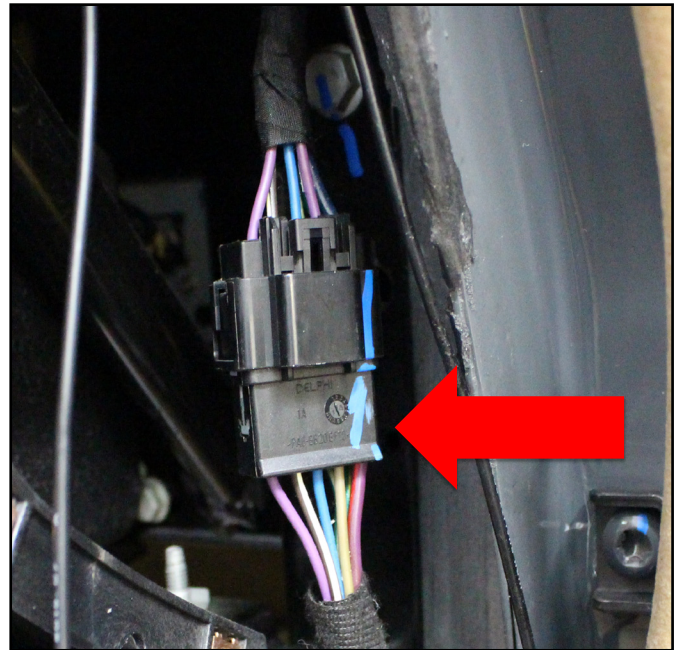

fig. 5a
3. Remove tape and convolute tubing, to expose circuits for Body harness C212 connector (fig. 5a).
Expose the wires from the body harness to isolate the SC999 circuit (violet-red stripe), from the C212 connector, as before cut at the connector, from position "A" again (fig.5a,5b)